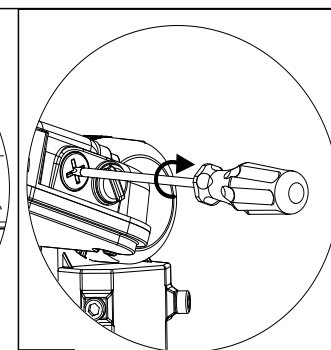

Fig. 8
3. Put the cover back and tighten it by screwdriver (Fig.8).